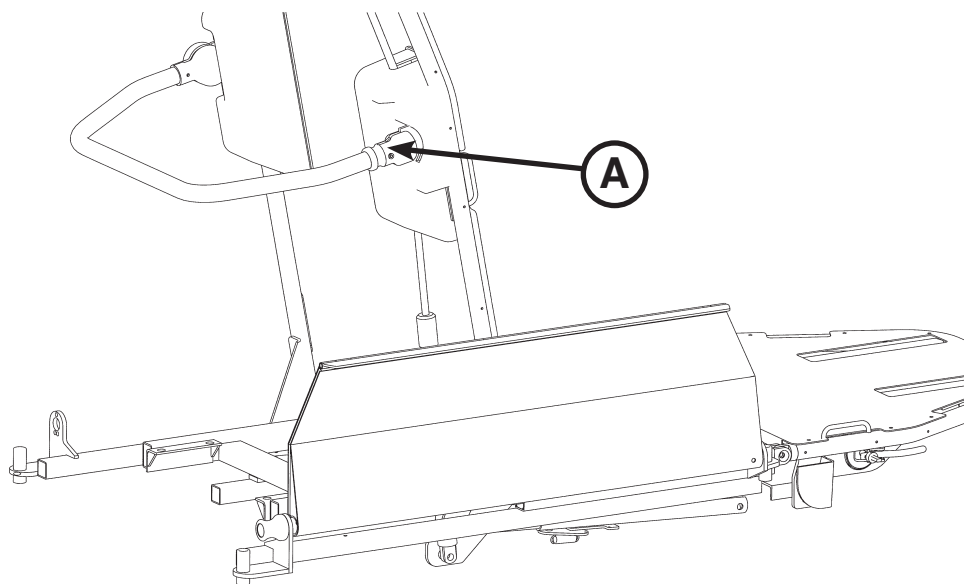

Figure 7: Push Bar
1. Pull the red release knob (A) while holding onto the push bar as shown in Figure 7.